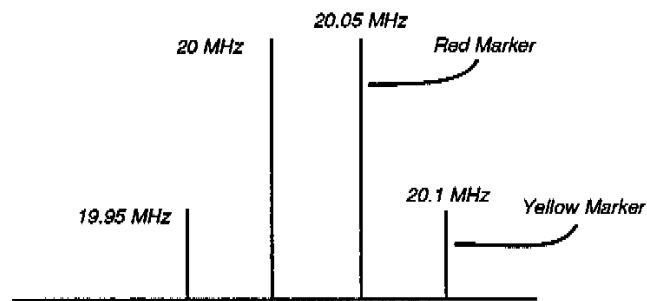

Figure 2-6. Third Order Intercept Distortion.
- e. Using the delta markers, position the red marker on the peak of the 20.05 MHz signal, and the yellow marker on the distortion product at 20.1 MHz (as shown in Figure 2-6).